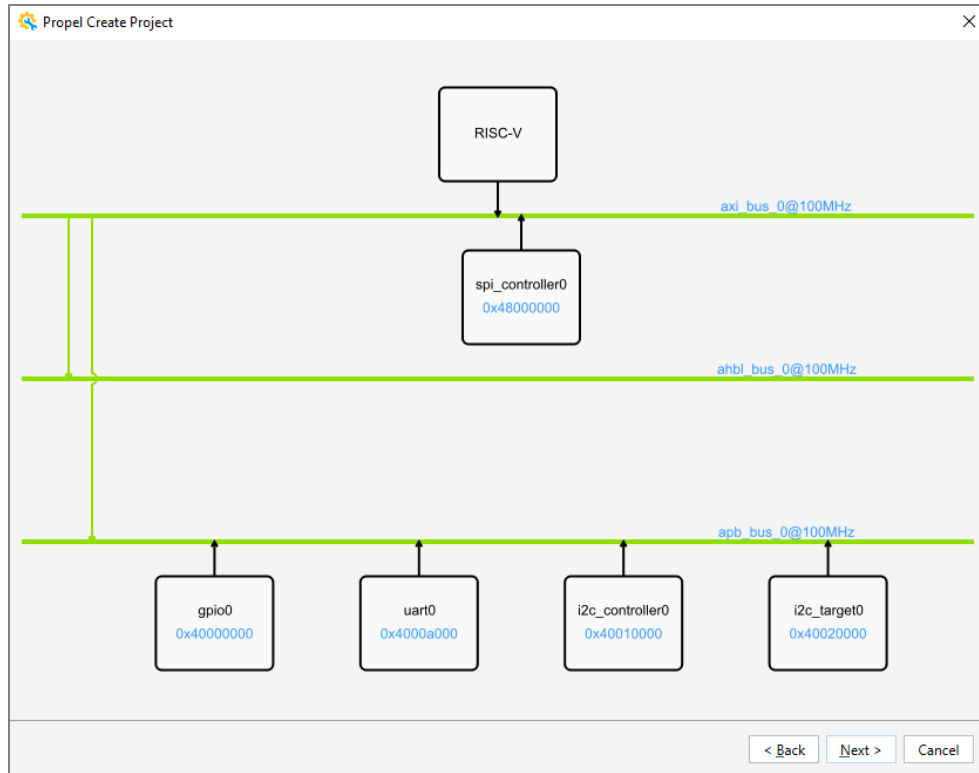

Figure 2.28. Scalable Wizard – System Preview
- Now you can see a straight-forward layout preview about the current system structure (Figure 2.28). After confirming the system preview, click **Next**.